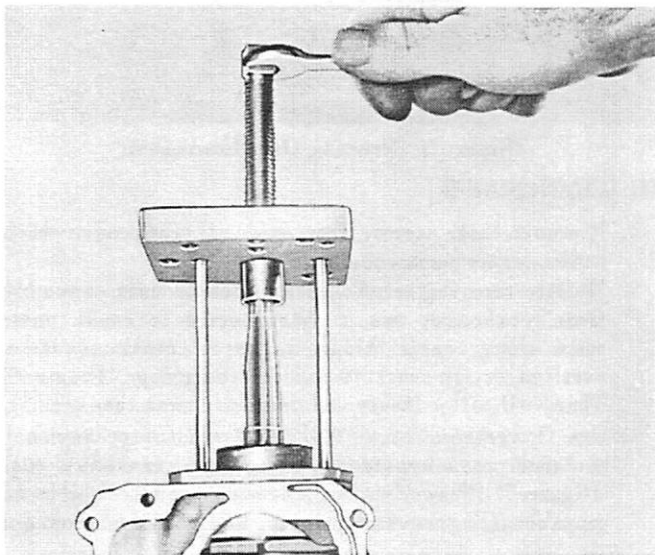

Figure 2. Removing Upper Bearing Housing Assembly
11. Install piston rings with Piston Ring Expander (91-24697). (Refer to Figure 2.)
3. Remove 4 counter-sunk Phillips head screws from top bearing housing assembly and pull assembly from crankcase. (Figure 2)